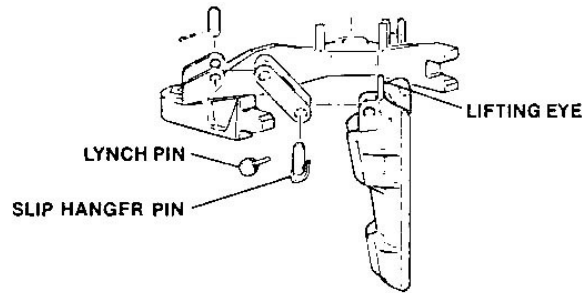

Figure 6: Changing slips
- 1) Removing Slips (Figure 6)